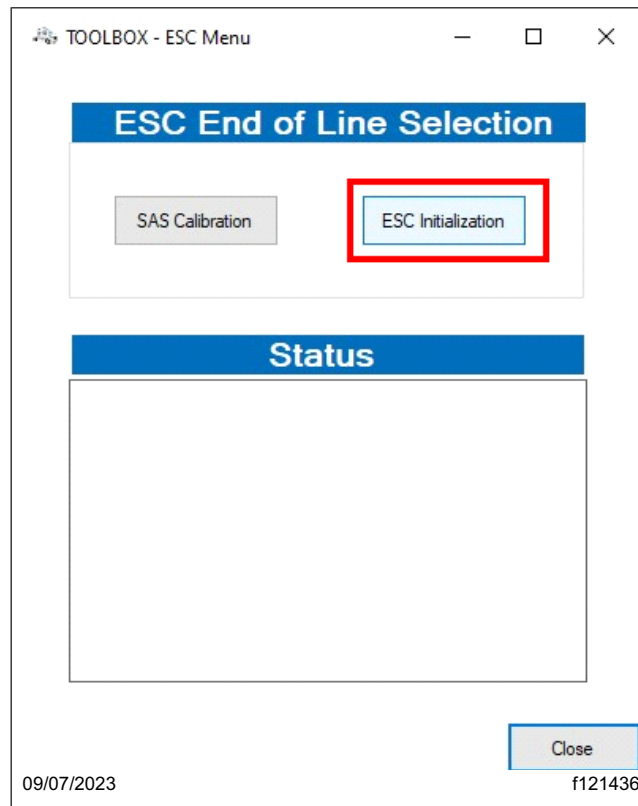

Fig. 20, Selecting the ESC Initialization Procedure in Toolbox
20.3 In the ESC End of Line Selection window, select the 'ESC Initialization' button. See Fig. 20